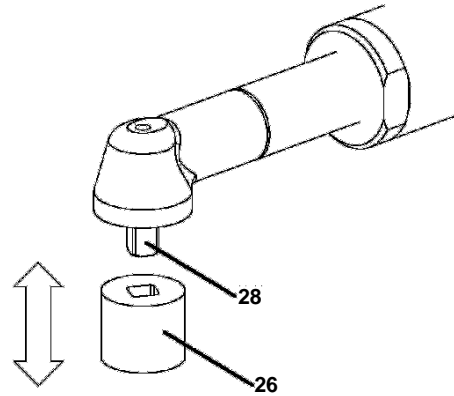

Fig. 16: Changing the tool, WAV
The tools (26) can be simply fit on and removed. (see Fig. 16:)